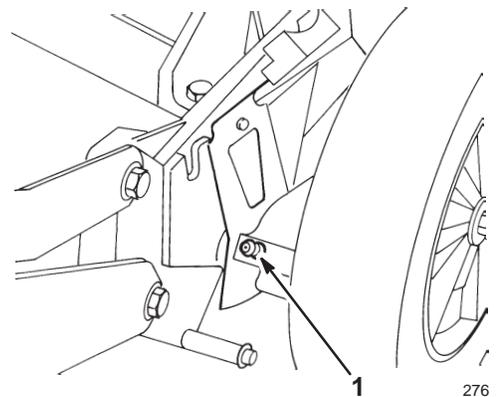

Figure 22
- Install a grease gun onto each fitting and gently apply two or three pumps of #2 multi-purpose lithium base grease (Fig. 22).